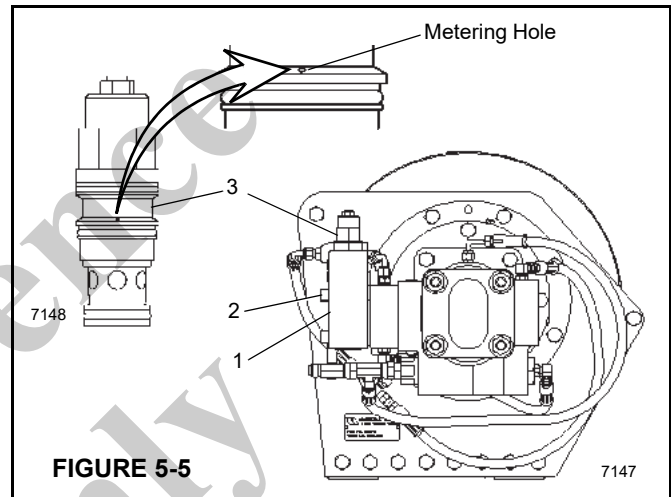

FIGURE 5-5
1. Remove the hose and the counterbalance block (42) from the motor assembly.
2. To remove the counterbalance block (42), loosen and remove the 4 capscrews (55).
3. Remove the counterbalance valve (58) from the counterbalance block and inspect the small metering hole located on the side of the cartridge valve to make sure it is not obstructed (Figure 5-5). Also inspect the O-rings to insure that they are not cut or flattened.